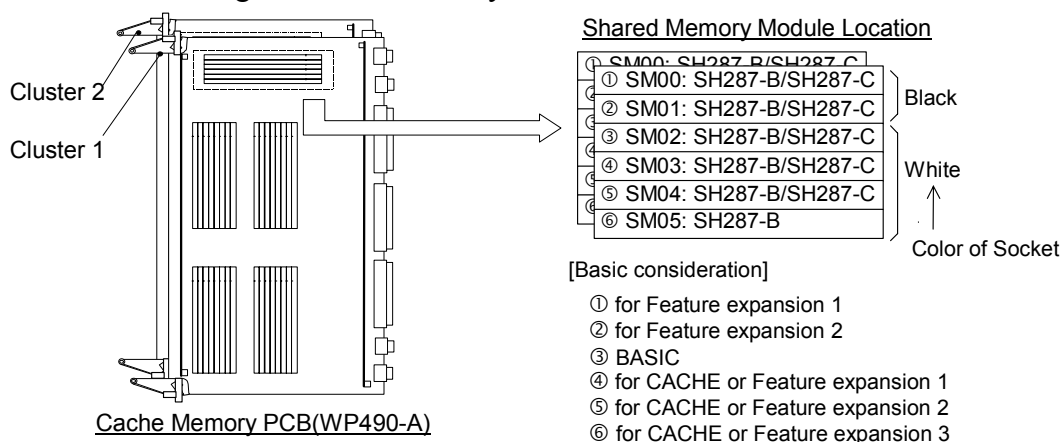

Fig. 4.2.1-6A Actual location of shared memory module
Note. 1: Location ①-⑥ shows actual location of shared memory module on Cache PCB. (Refer to Fig. 4.2.1-6A)